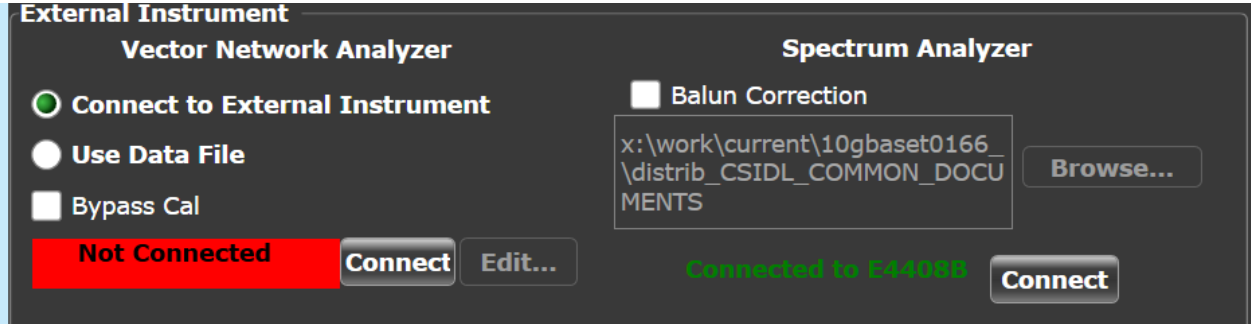

Figure 14 Connection status after the Test App detects the Spectrum Analyzer
- 12 Once the 10GBASE-T Ethernet Test Application detects the Spectrum Analyzer, it is indicated on the **Set Up** tab as shown in Figure 14.